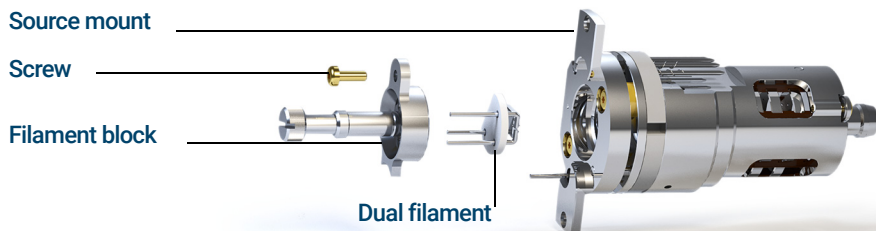

Figure 62 Replacing the dual filament
- 4 Remove the screw securing the filament block to the source mount. (See **Figure 62.**)
- 2 Insert the 3 pins on the dual filament through the rear of the filament block. (See **Figure 62** on page 192.)